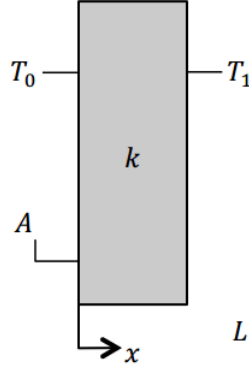

Figure 2.1: Model of example 2.2.1
**Example 2.2.1 Fourier's law, plane wall, constant internal heat generation.** *Refer to tutorial 2-2-1 Fourier Plane Wall.nb* Consider a one-dimensional plane wall in steady state and without heat generation. Temperature on one side is  $T_0 = 50\text{ }^{\circ}\text{C}$ , other side is  $T_1 = 30\text{ }^{\circ}\text{C}$ , wall width is  $L = 0.01\text{ m}$ , area is  $A = 1\text{ m}^2$ , thermal conductivity  $k = 0.5\text{ W/m.k}$ . Sketch the heat distribution on T-x coordinate, what is the heat flux through the wall? (As shown in figure 2.1)